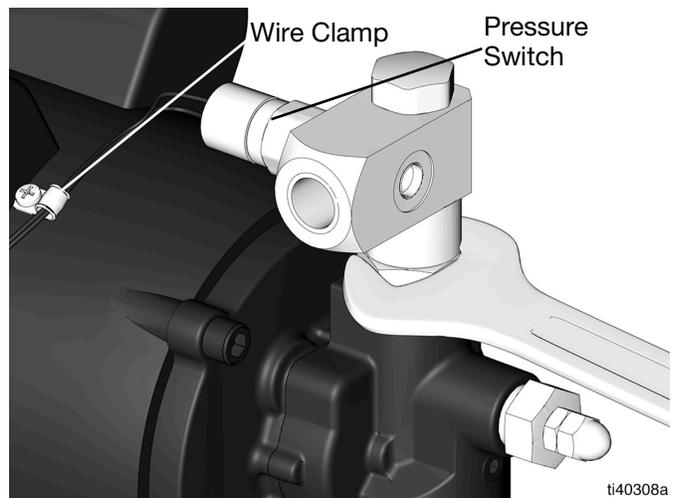
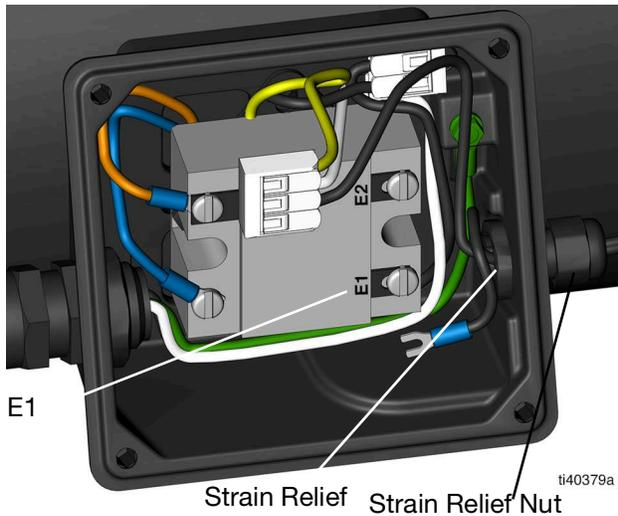

FIG. 12
FIG. 13
12. Pull the pressure switch wire out of the wire clamp (FIG. 12).
13. Remove the outlet check valve assembly (16, 17, and 18) from the pump (1) (FIG. 12).
1. Tighten the new outlet check valve assembly (16, 17, and 18) into the pump (1), so the pressure switch faces the motor (19) (Torque 20 ft-lbs, 27.1 N•m) (see FIG. 12).
2. Push the pressure switch wire into the wire clamp and into the terminal box through the strain relief (FIG. 12 and FIG. 13).
3. Twist the strain relief nut on using a wrench until tightened (FIG. 13).
4. Crimp the fork connector to one of the pressure switch wires (FIG. 13).
6. Reinsert the second wire back into the connector containing the yellow and white cables (FIG. 13).